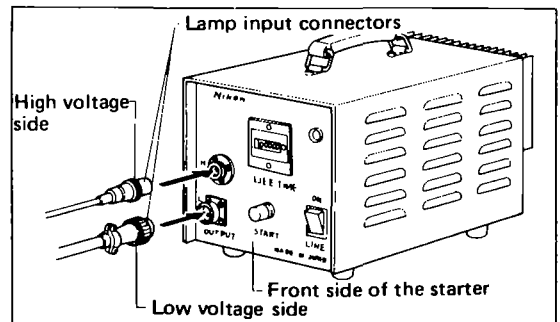

Fig. 5
4. Connection of the starter (Fig. 5 & 6)
Connect the high voltage cord (black) and the low voltage cord (grey) to the receptacles "OUTPUT H" and "OUTPUT L" on the starter, respectively. (Fig. 5)